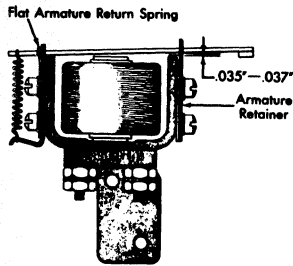

Figure 88. Print Suppression Magnet Adjustment
Print Suppress Magnet (Figure 88)
6. Attract armature and position magnet bracket so that armature contacts suppress arm and interposer block clears side of print arm by .003-inch to .005-inch (Figure 88).